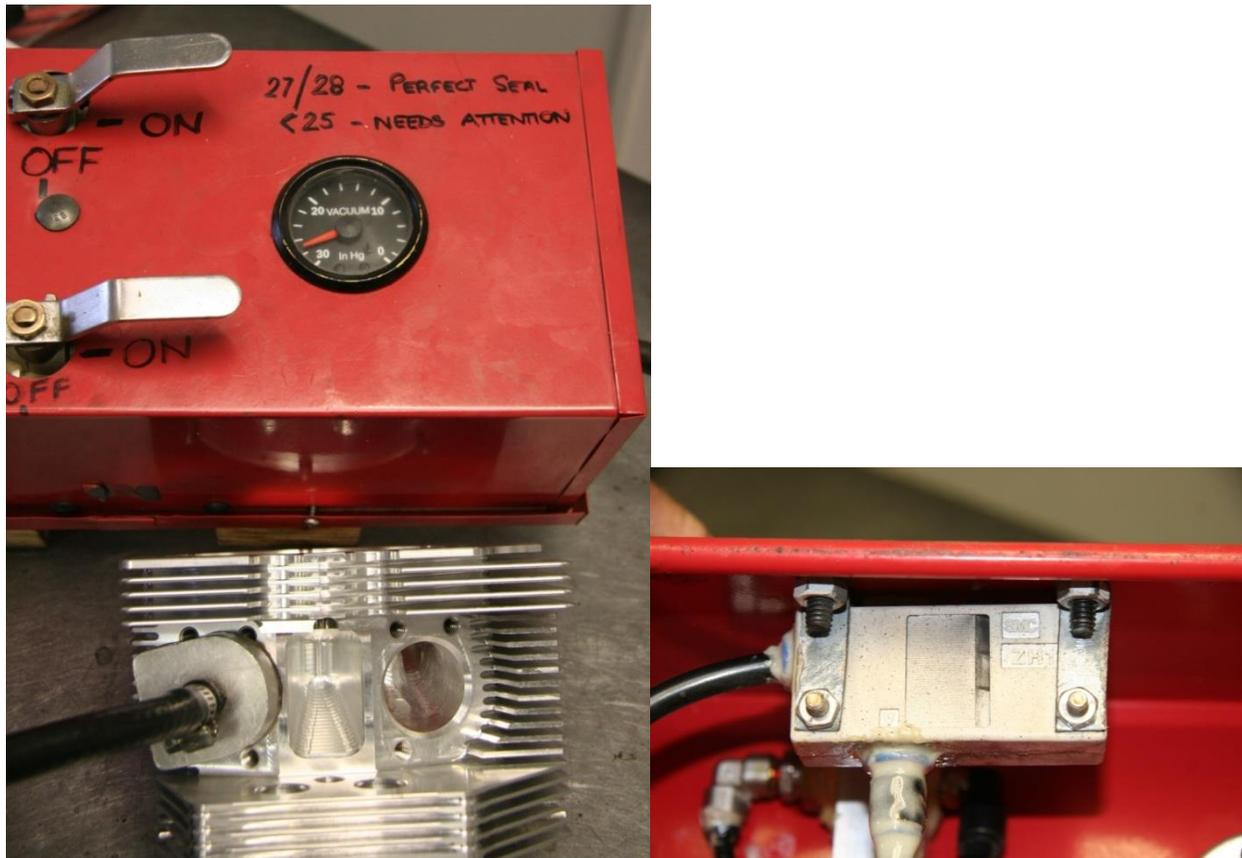

Figure 94 – Vacuum Test Rig
- After cutting the seal of the valves must be checked using a vacuum tester. This can be done without fitting the valve springs as the vacuum which is applied in this test holds the valve against the seat. Figure 94 shows a vacuum test rig. This system connects to the workshop's compressed air supply and uses a venturi effect within the silver box (right) to generate a partial vacuum. A fitting must be made to connect the vacuum tube to the cylinder head – we use a layer of insertion rubber to seal between the metal fitting and the cylinder head. Once operating the vacuum is assessed via a gauge. If the valve achieves 25inHg or less then the valve must be cut against the seat to improve the seal. Again, remember that the seats and valves must be cut as little as possible.